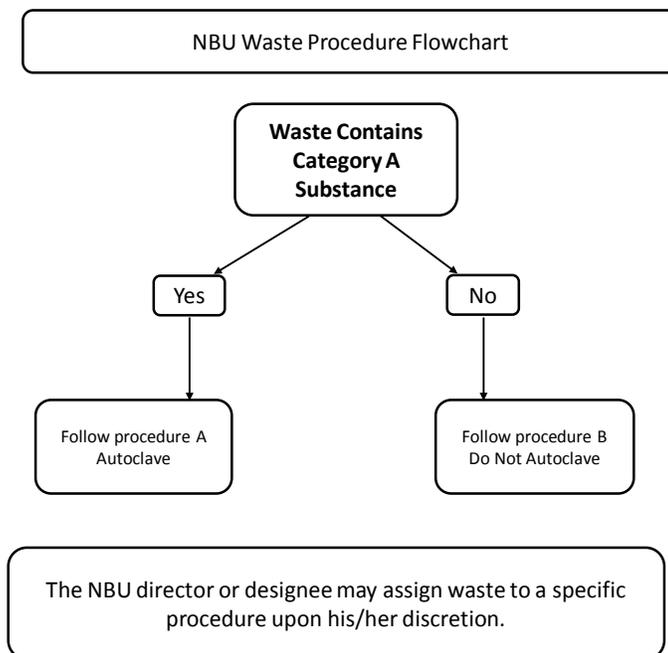

Figure 1
- Follow the NBU Waste Algorithm (figure 1) to determine which procedure to follow.